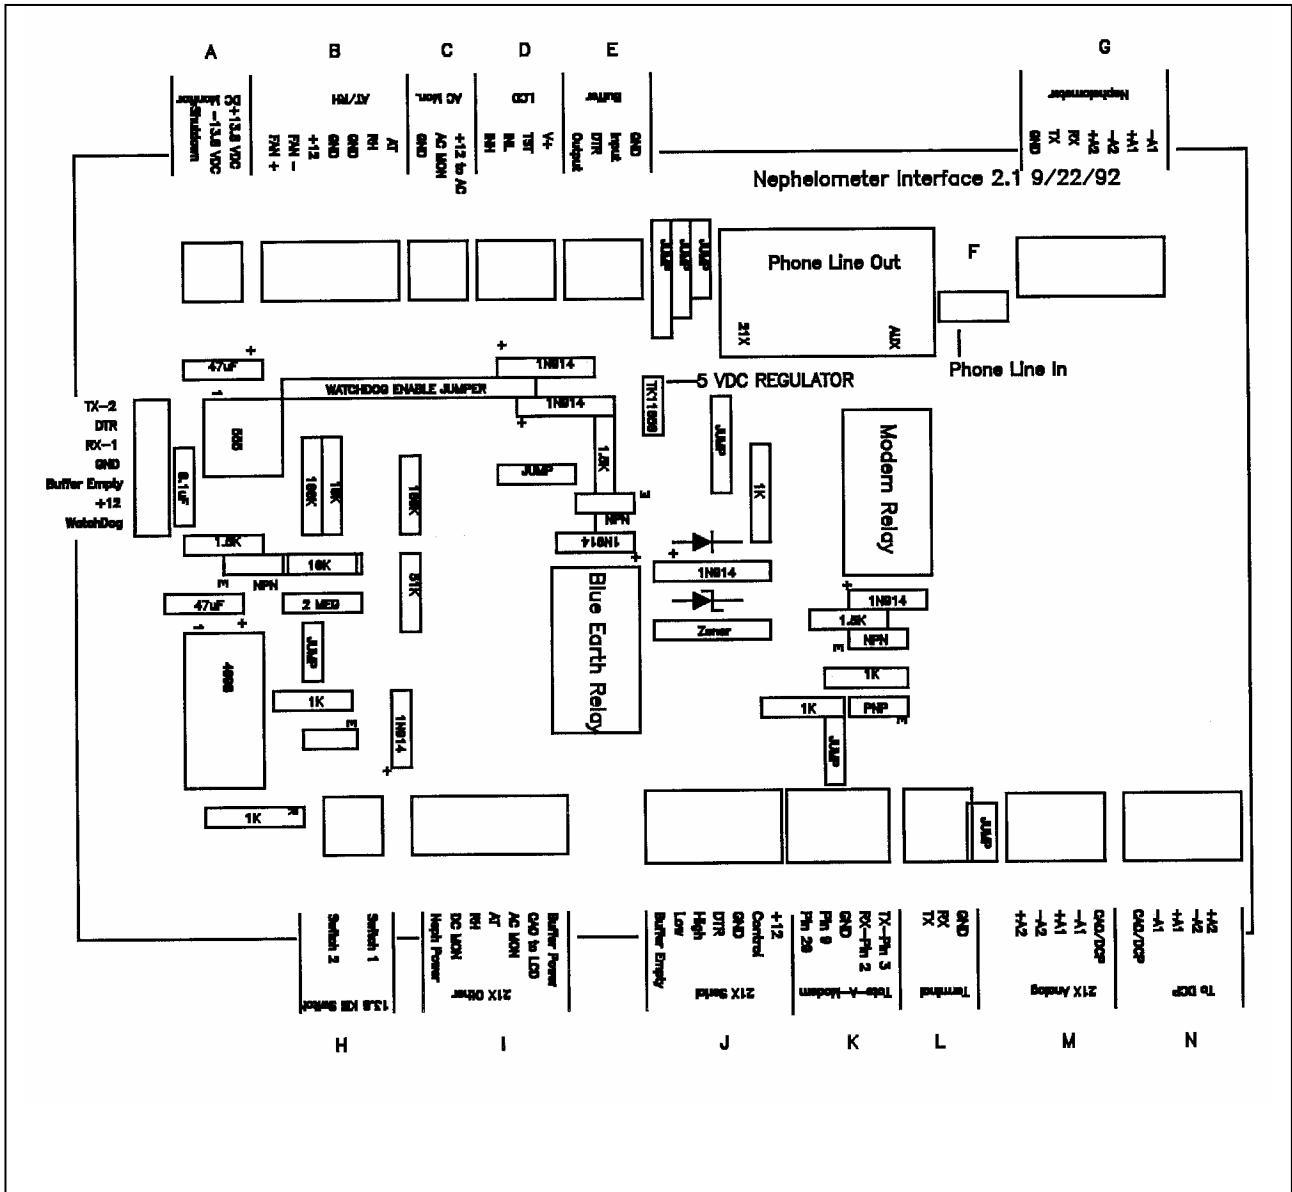

Figure 4-7. Interface Circuit Board Layout – Type 1 Systems.
Figure 4-7 shows the layout of the interface circuit board. Tables 4-3 and 4-4 detail the wiring related to the Interface Circuit Board (CB).